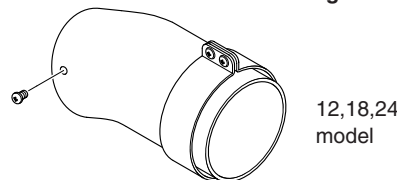

Fig. 36
7. Note the positions of the two sensing tubes on the fan spigot and three wires on the fan motor and remove them (Fig. 36).